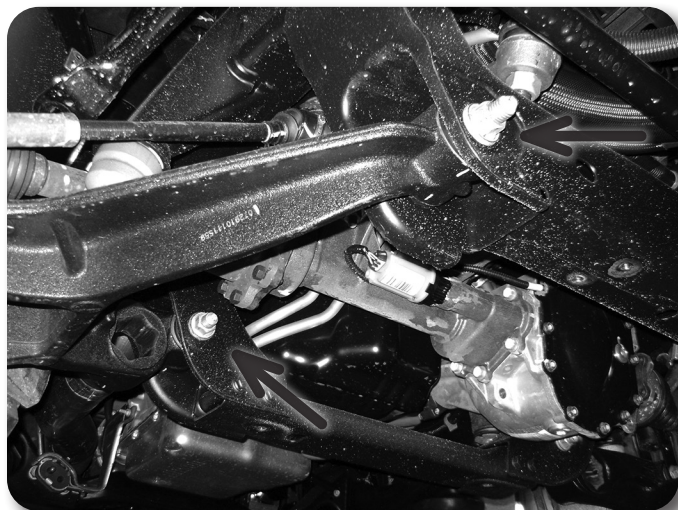

Figure 16
22. Remove the front and rear lower control arm bolts and remove the control arms from the vehicle Figure 16 Save the control arms and mounting hardware.